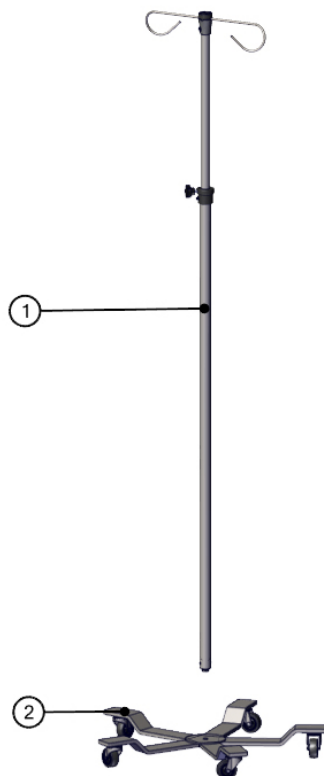

Fig. 1: Disassembled IV Stand
3. Inspect IV Stand components to ensure all components are present (Fig. 1).